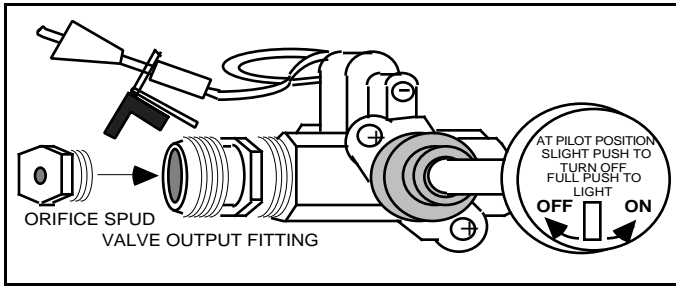

Figure 6
1. Thread **ORIFICE SPUD** into **VALVE OUTPUT FITTING** and wrench tighten. **DO NOT USE PIPE COMPOUND WHEN INSERTING ORIFICE.** See Figure 6.
Correctly adjusted pilot flame should be steady and soft blue surrounding approximately 1/2 inch of thermocouple tip. Never permit tip to exceed a dull red temperature. (See Figure 6)